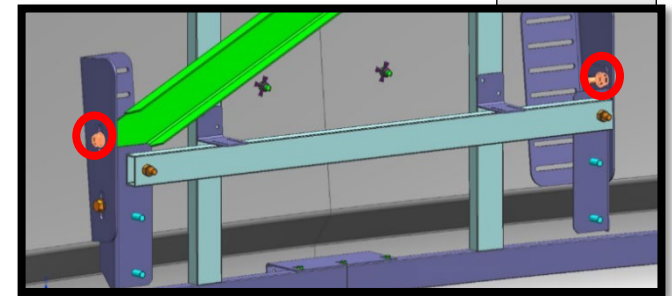

Figure 9
- A. Use a 1/2" backing wrench and a 1/2" socket and socket wrench to remove the upper bolt from each main mounting bracket and use these for the next step (B). (See Figure 9 – Highlighted in Red Circles)